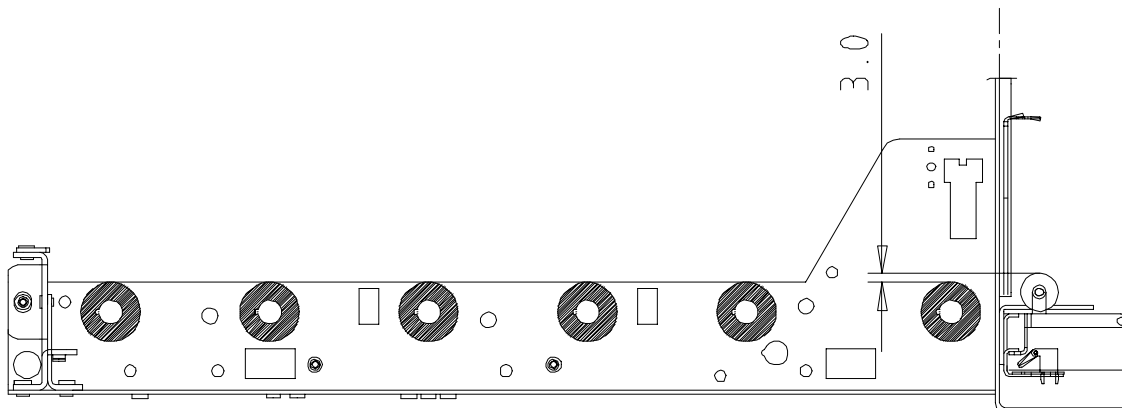

figure 2
6. If the distance between the CASSETTE REGISTRATION ROLLER level and the TRANSPORT ROLLER level is less than 3mm (fig. 2), proceed with step 7, else proceed with item 2 CASSETTE OPENER.